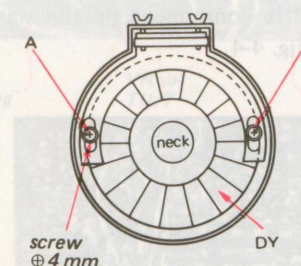

Fig. 3-13. Yoke holding screws
1. Loosen the two screws labeled A and B in Fig. 3-13.
4. Secure the yoke in position by tightening the screws labeled A and B in Fig. 3-13. Tighten the clamp band.